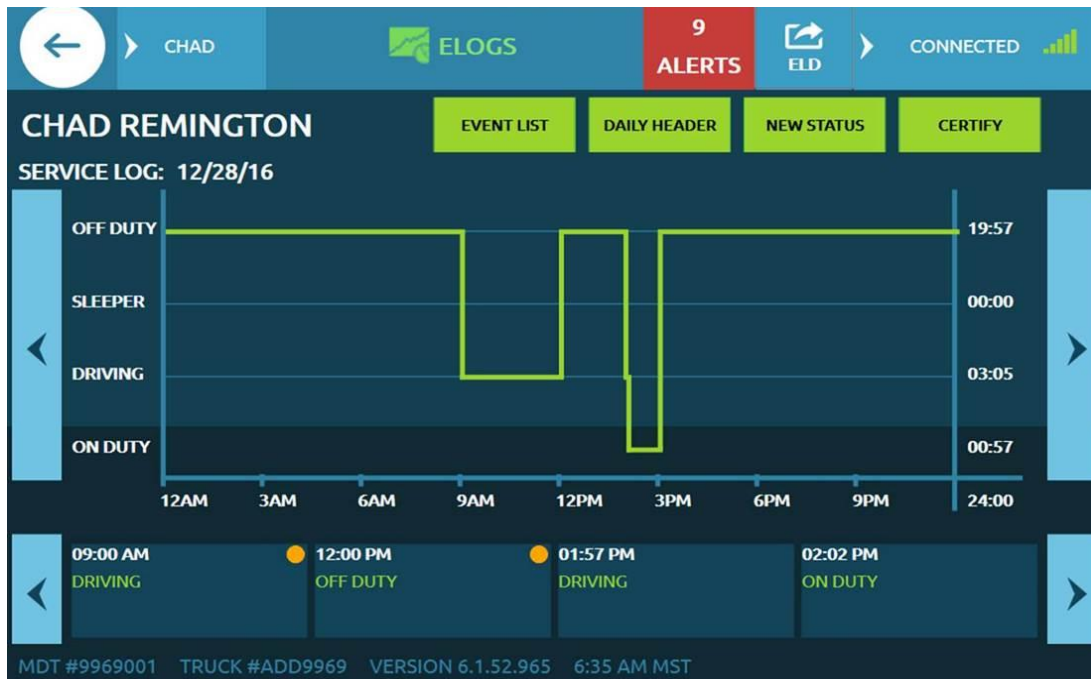

Figure 4.8
- To edit an existing entry, select the corresponding entry located under the log graph. (Fig 4.8)
In the case of a Road Side Inspection, expect that the Safety Official will want to see the Summary Screen, and both the Daily Header and Event List (figure 4.8). To view this information, the in-cab computer must be handed through the window, or driver's door, and be able to display these screens.